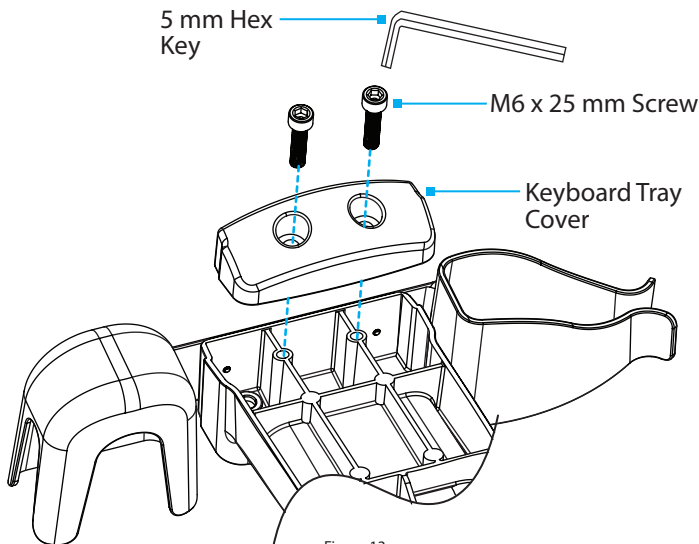

Figure 13
5. Insert the **M6 x 25 mm Screws** (x 2) through **Assembly Holes**, located in the **Keyboard Tray Cap**, and into the **Keyboard Tray** and tighten, using the **5 mm Hex Key** to complete the **Column Assembly**. (Figure 13)